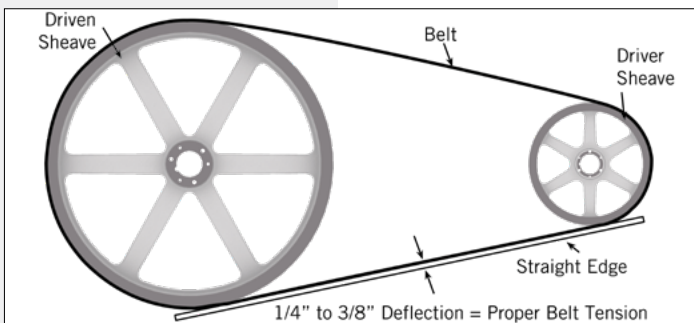
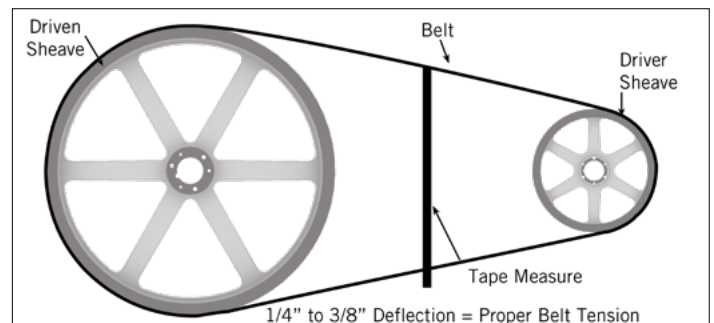

Figure 5a. Belt Tension with a Straight Edge
Figure 5b. Belt Tension with a Tape Measure
- Place a straight edge along the belt from sheave to sheave as shown in **Figure 5a**, or use a tape measure as shown in **Figure 5b**, to measure belt deflection.
- There is adequate belt tension if the belt deflects between 1/4" and 3/8" as shown in **Figures 5a** and **5b**.